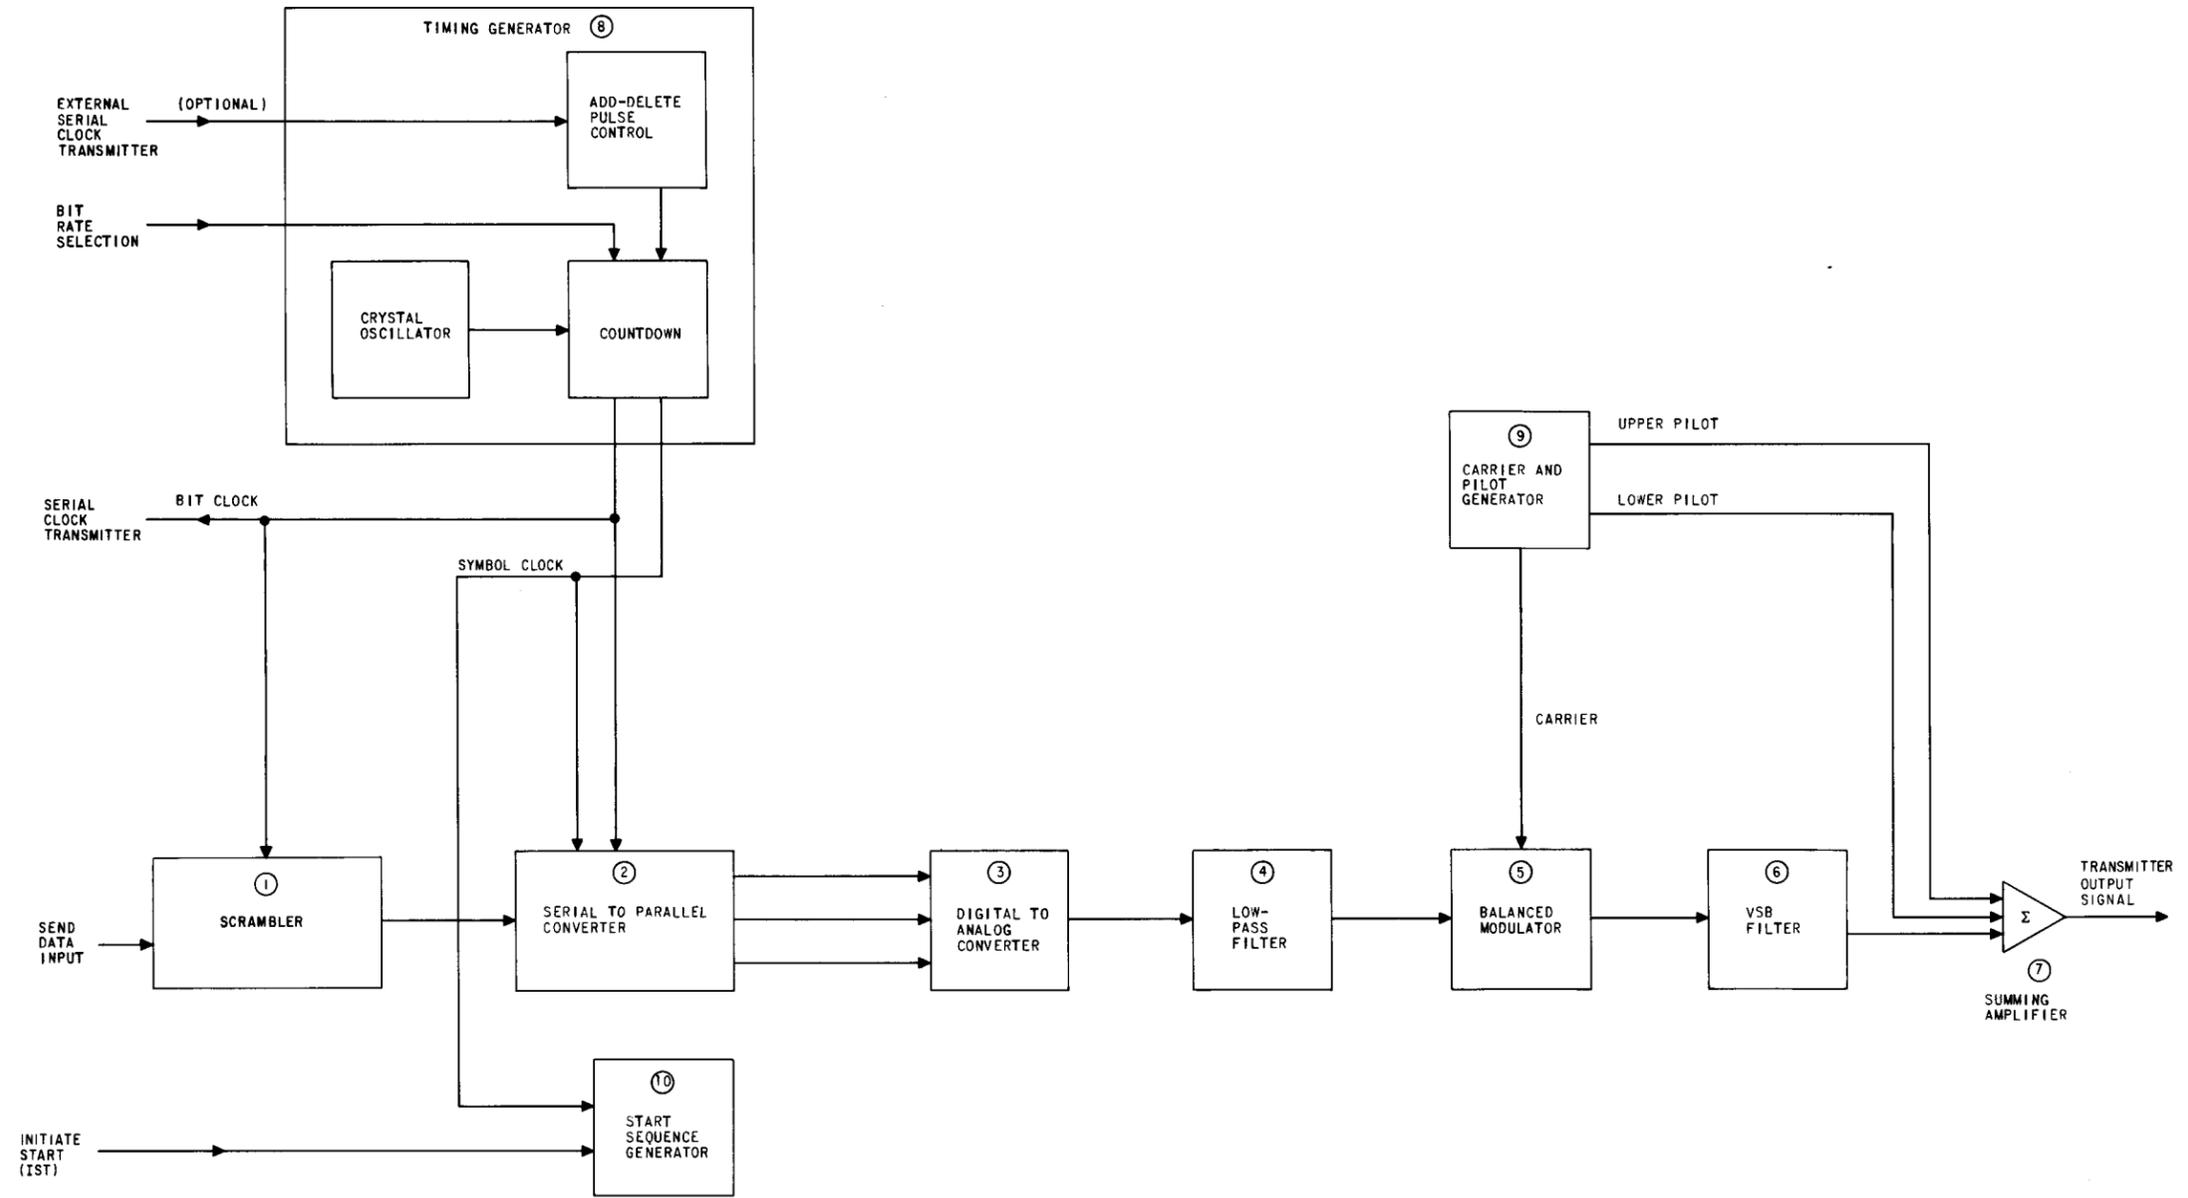

Fig. 8—Data Set 203-Type: 22A-Type Data Unit, Transmitting Circuits, Block Diagram
**2.01** A block diagram of the transmitter is shown in Fig. 8. The following descriptions are referenced to the functional circuit blocks.